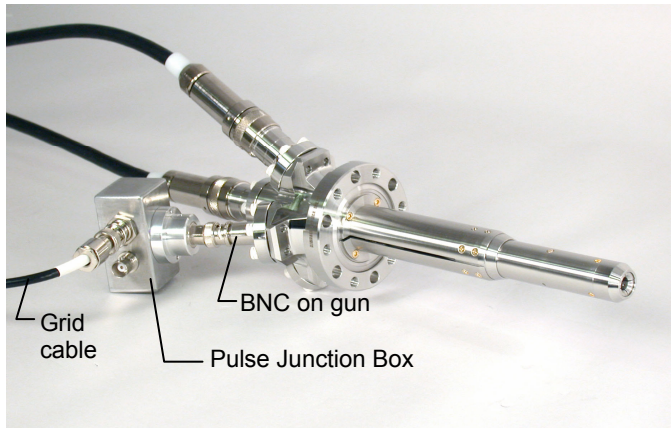
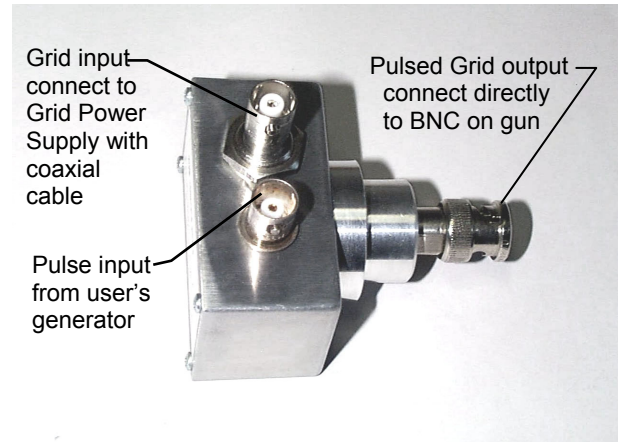

Fig. 4.7-2 A typical Electron Gun with Pulse Junction Box attached to Grid BNC
Fig. 4.7-3 Pulse Junction Box, showing connections
3. Connect the Pulse Junction Box as shown in Fig. 4.7-2 and Fig. 4.7-3.